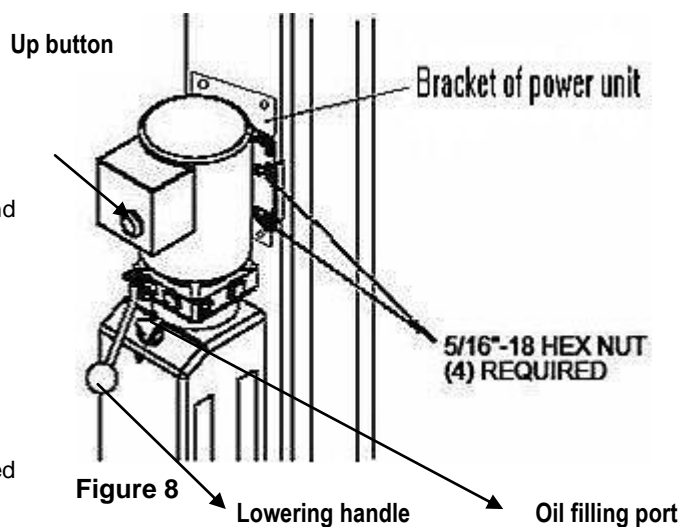

Figure 8
- Use 5/16x18 bolts and washers (see fig. 8) to secure the power unit. After the securing of the power unit. Fill the reservoir with hydraulic oil (oil capacity of 10L). Operate carefully to avoid dust and other pollutants mixing with the hydraulic oil.